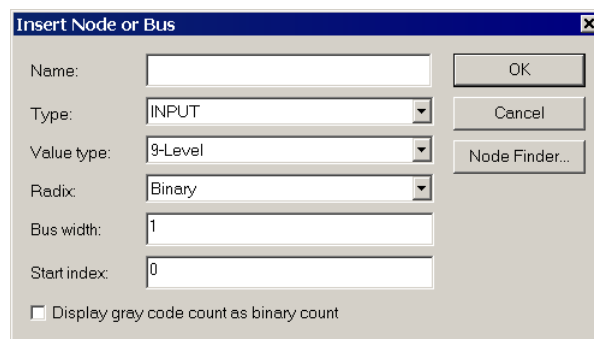
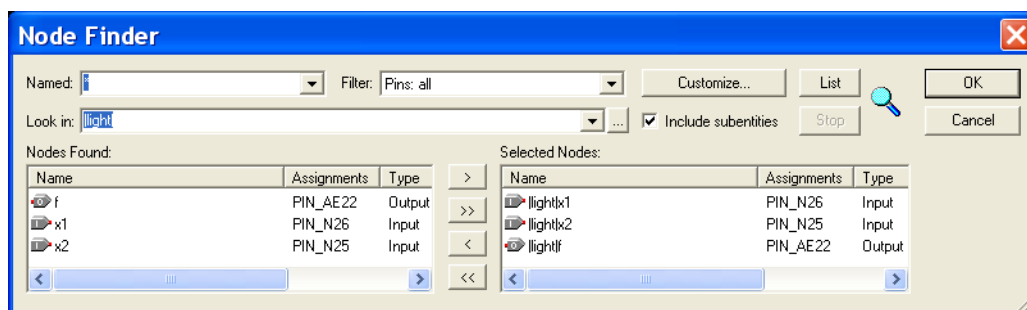
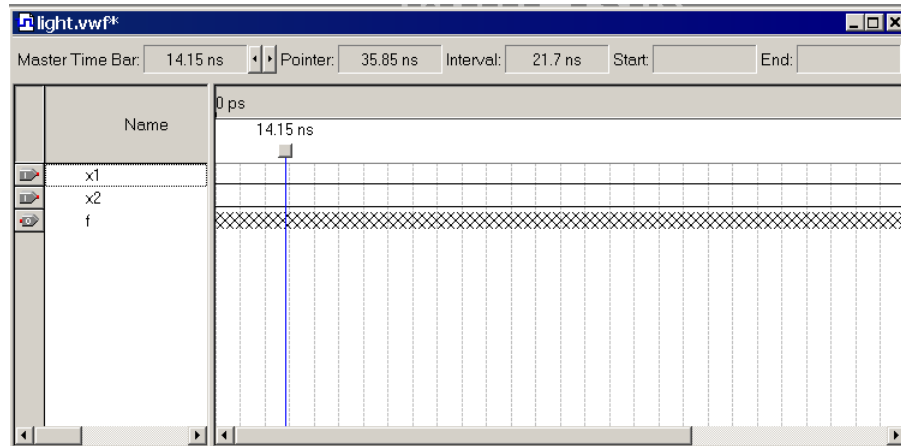

Figure 34. The Insert Node or Bus dialogue.
Figure 35. Selecting nodes to insert into the Waveform Editor.
Figure 36. The nodes needed for simulation.
- Next, we want to include the input and output nodes of the circuit to be simulated. Click **Edit > Insert Node or Bus** to open the window in Figure 34. It is possible to type the name of a signal (pin) into the Name box, but it is easier to click on the button labeled **Node Finder** to open the window in Figure 35. The Node Finder utility has a filter used to indicate what type of nodes are to be found. Since we are interested in input and output pins, set the filter to **Pins: all**. Click the **List** button to find the input and output nodes as indicated on the left side of the figure.
Click on the  $x1$  signal in the Nodes Found box in Figure 35, and then click the  $>$  sign to add it to the Selected Nodes box on the right side of the figure. Do the same for  $x2$  and  $f$ . Click **OK** to close the Node Finder window, and then click **OK** in the window of Figure 34. This leaves a fully displayed Waveform Editor window, as shown in Figure 36. If you did not select the nodes in the same order as displayed in Figure 36, it is possible to rearrange them. To move a waveform up or down in the Waveform Editor window, click on the node name (in the Name column) and release the mouse button. The waveform is now highlighted to show the selection. Click again on the waveform and drag it up or down in the Waveform Editor.